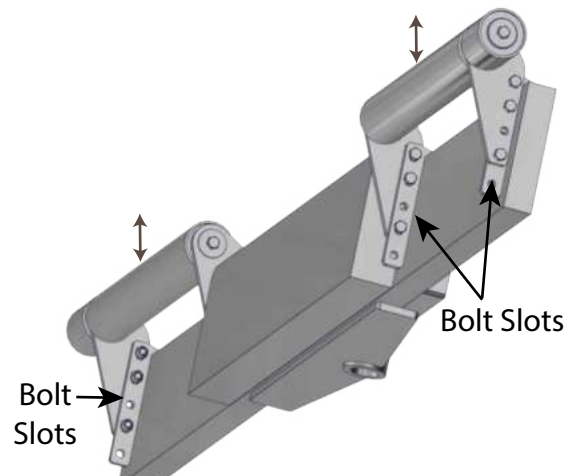

Figure 4-52. Adjustable Push Rollers
- Adjust truck push rollers to the appropriate height needed for asphalt truck. **(Figure 4-52)** Use truck hitch controls if equipped with this option. **(Page 4-32)**
- There are five (5) set heights on the truck push rollers.